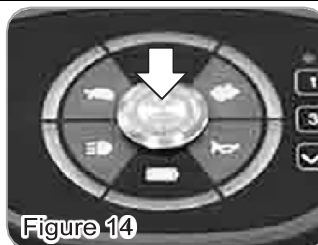

Figure 14
- Press power button to turn on/off (Figure 14). See section 4-1 for details.